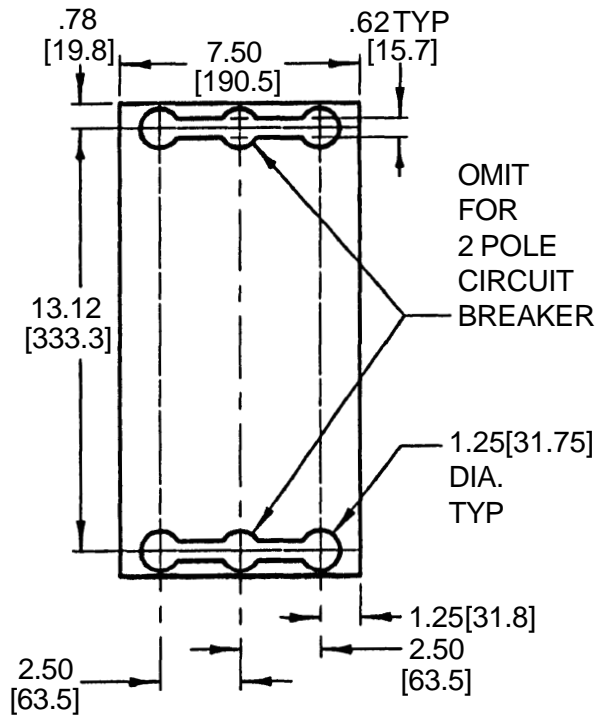

Fig. 1
MOUNTING PREPARATION (Fig. 1)
2. Drilling locations are shown Fig. 1. The 5/8" wide cutout between holes is required when mounting the breaker with stud assemblies to a metallic panel.